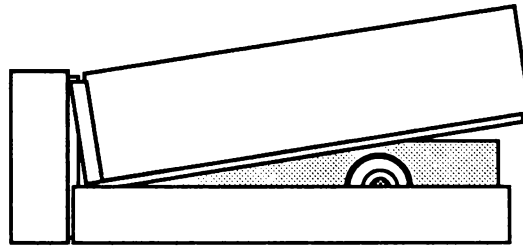

FIGURE 4
4. Slide the front edge of the case top against the front bezel as shown in Figure 4.